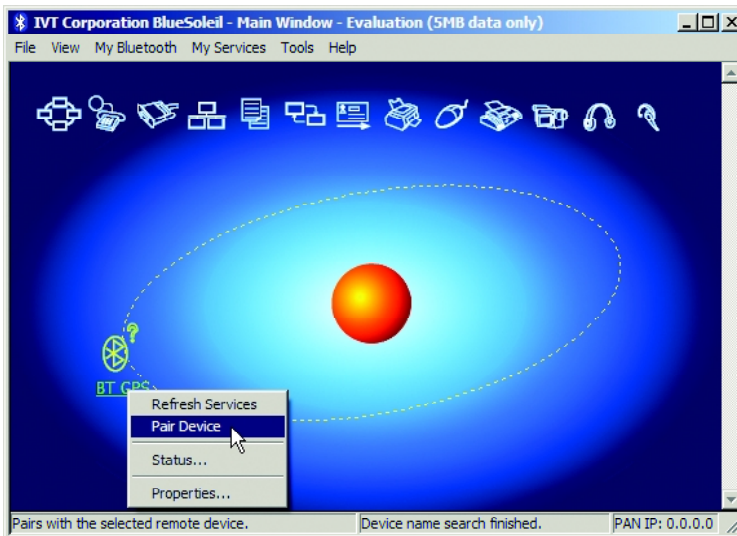

Figure 6 : Pairing the device between computer (the orange ball) and ZX-BLUETOOTH (in BT GPS name)
5. Pairing the master device (computer) and slave device (ZX-BLUETOOTH) by clicking the right button mouse at device, select **Pair Device** following the figure 6.